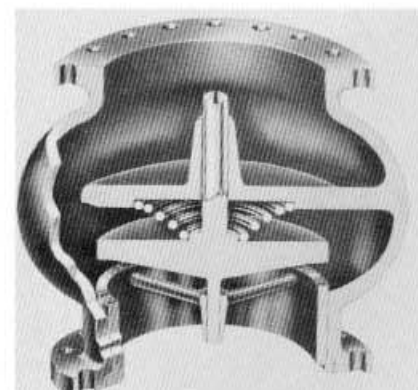

Figure 5
5. Globe type - spherical shaped body with flanges. See Figure 5.